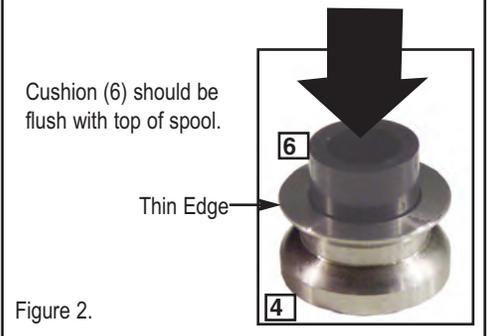

Figure 2.
1. Check that the Cushion (6) is preassembled into the Upper Spool as shown in **figure 2**.